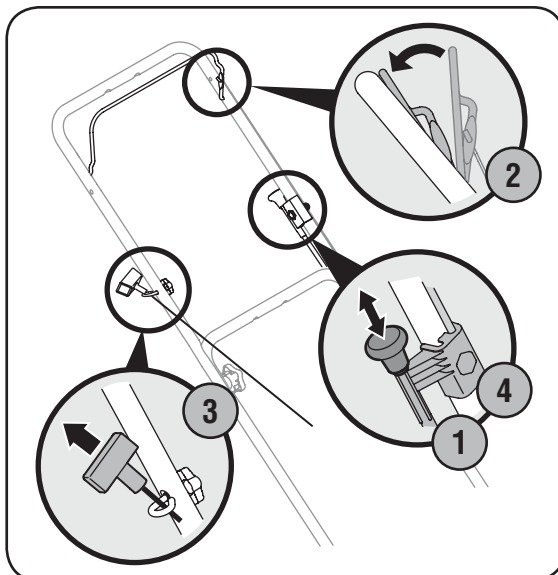

Figure 4-2 Models with manual choke.
1. Pull out the choke knob located on the left side of the upper handle, Figure 4-2.
2. Standing behind the mower, squeeze and hold the blade control against upper handle, Figure 4-2.
4. As the engine warms, slowly push in the choke knob. See Figure 4-2.